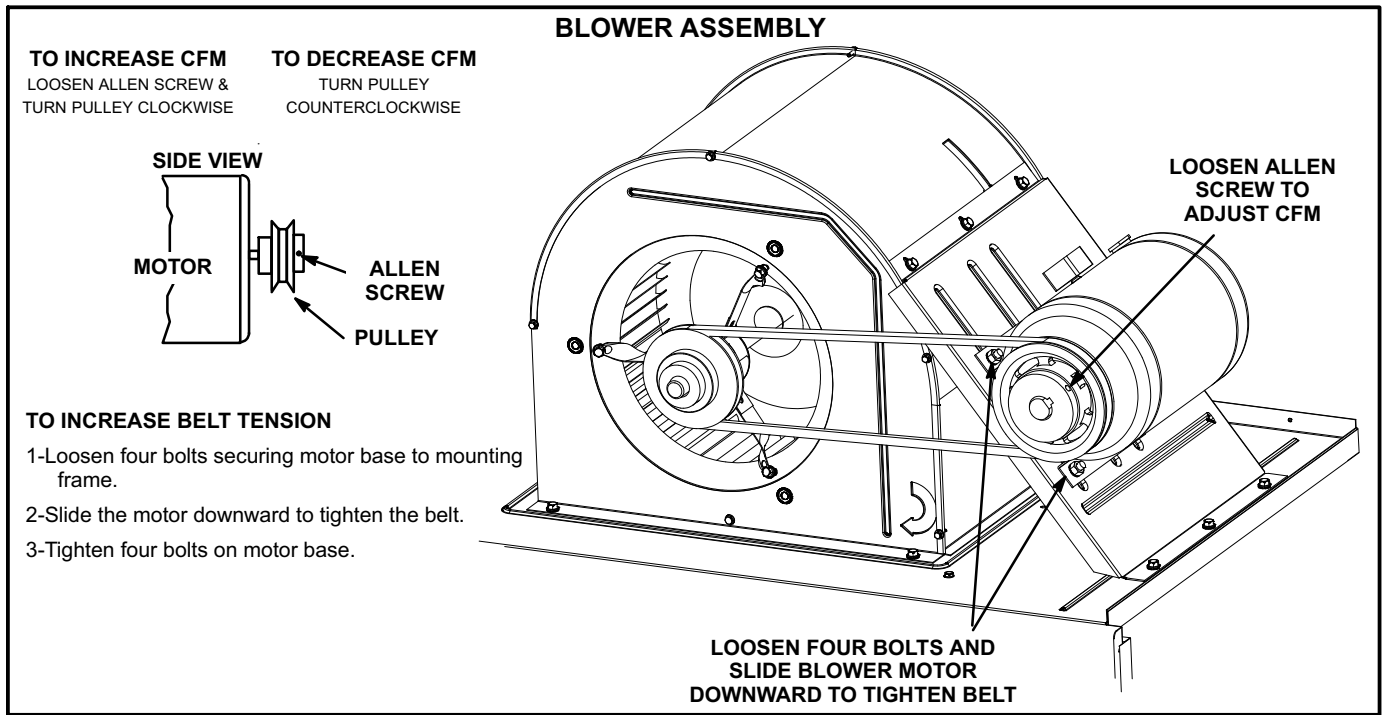

FIGURE 9
The blower RPM can be adjusted at the motor pulley. Loosen Allen screw and turn adjustable pulley clockwise in 1/2-turn increments to increase CFM. Turn counterclockwise in 1/2-turn increments to decrease CFM. See figure 9. Do not exceed minimum and maximum number of pulley turns as shown in table 4.
- 1- Loosen four bolts securing motor base to mounting frame. See figure 9.